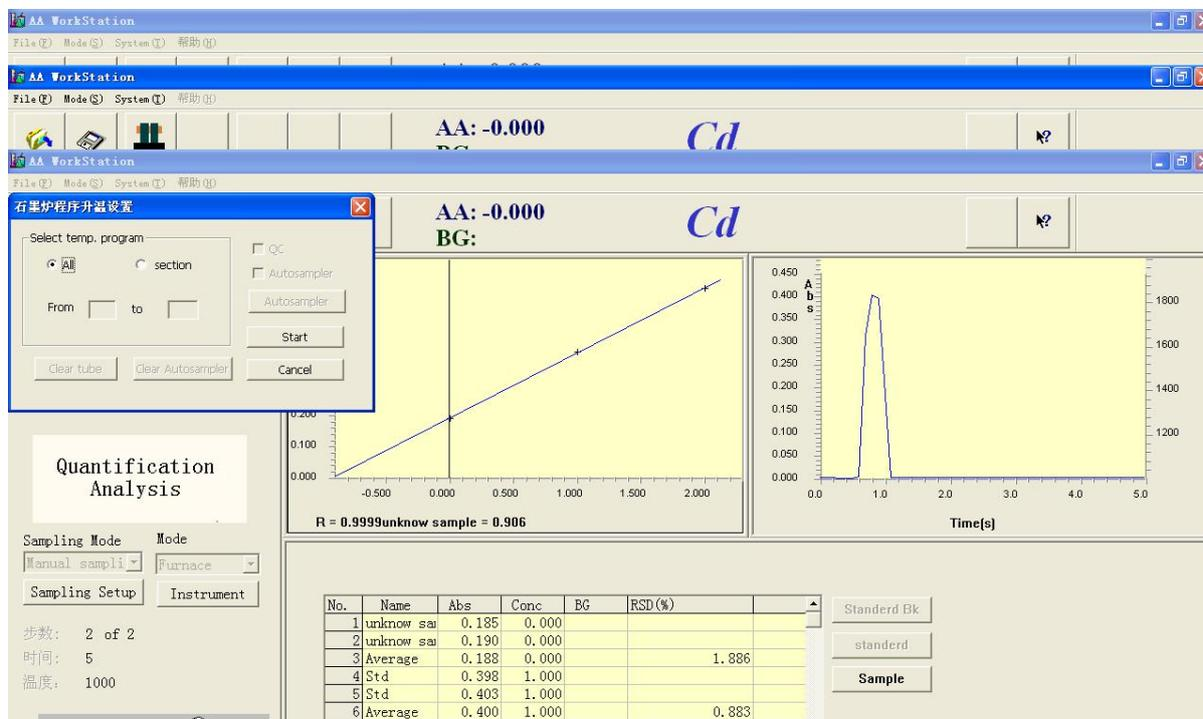

Figure 5-65
2. Sampling again, press **【Reread】** button, display the figure 5-65